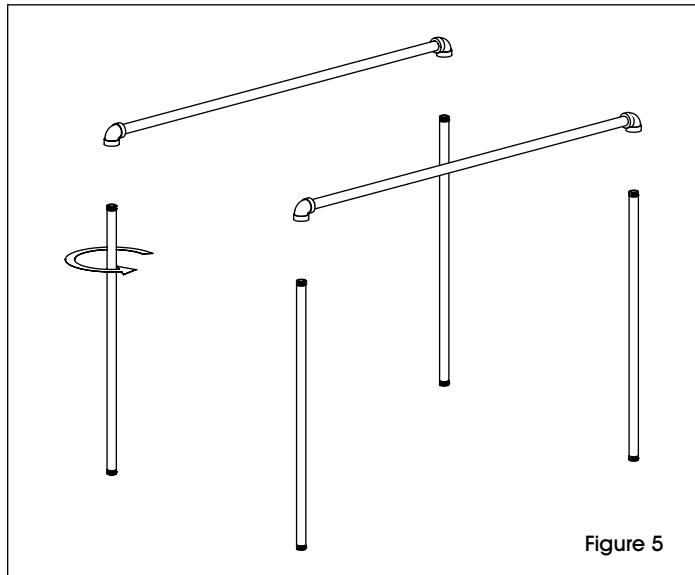

Figure 5
5. Twist two top uprights into each hangbar. (See Figure 5)